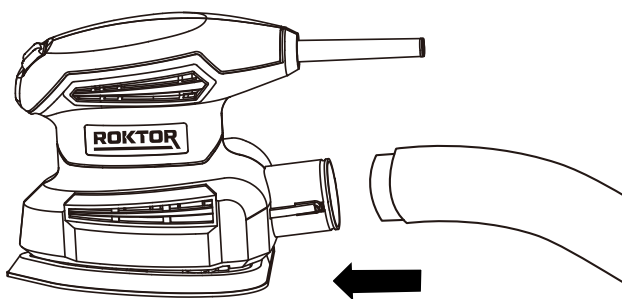

Figure 3
3. USING THE DUST OUTLET (SEE FIG. 3)